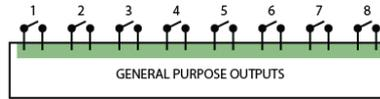

Figure 2.2: GPO Pinout
Each GPO port features a normally-open (NO) relay for switching external equipment. The relay can switch 250VAC/30VDC up to 2A. Please refer to figure 2.2 for the pinout of the GPO connector.